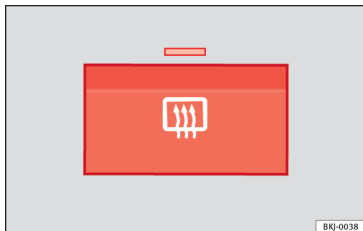

Fig. 148 With the air conditioning controls: heated rear window switch.
- Press the demisting button »» Fig. 148